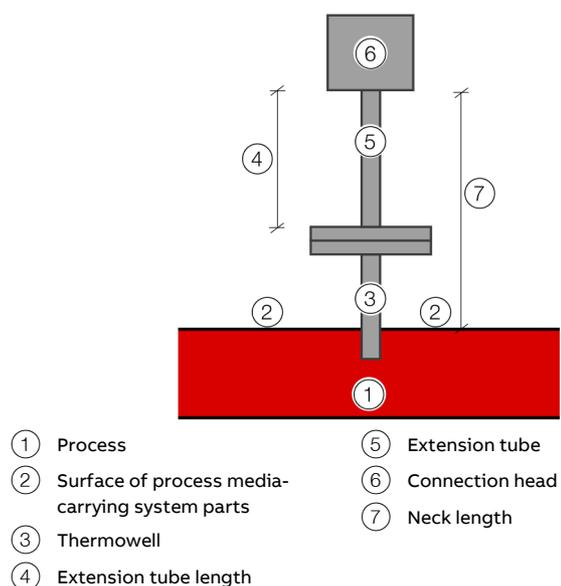

Figure 1: Definition of the neck length
Therefore, at transmitter output power $P_o = 38 \text{ mW}$ the temperature rise in the event of a fault is approximately 8 K. This results in maximum feasible process temperatures T_{medium} , as presented in Table **Figure 1** on page 8.
Surface temperature of process media-carrying system parts °C (°F), see Figure 1 on page 8
- (A) Temperature rise in connection head °C (°F) **Surface temperature of process media-carrying system parts °C (°F), see Figure 1 on page 8**
- (B) Neck length mm (in)